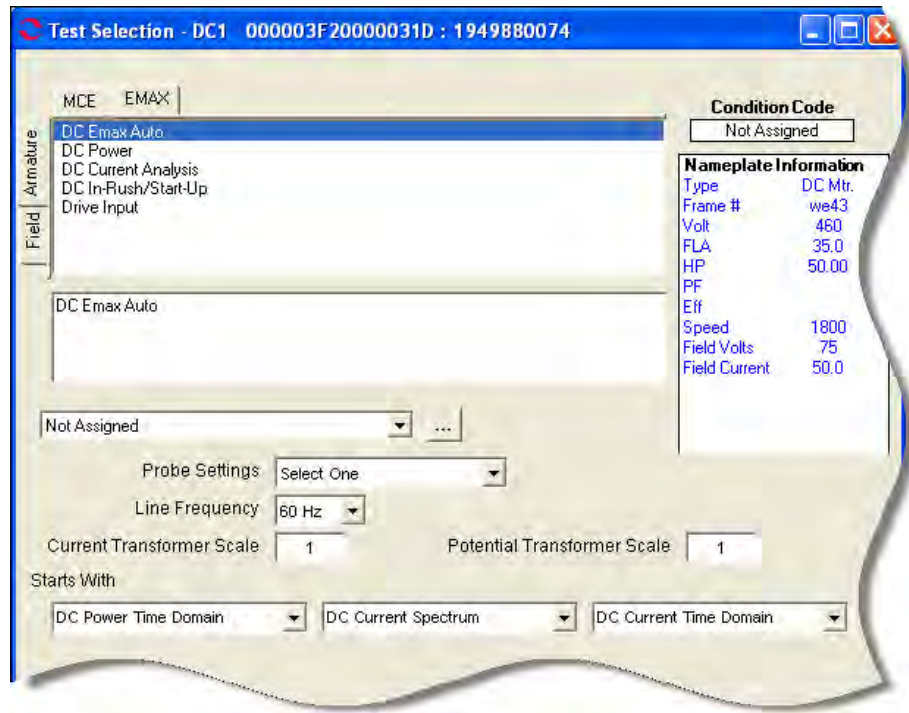

Figure 6-29: DC EMAX Auto Test Selection Window
4. Select the Test Selection icon  on the toolbar. The Test Selection window, shown in Figure 6-29 opens.